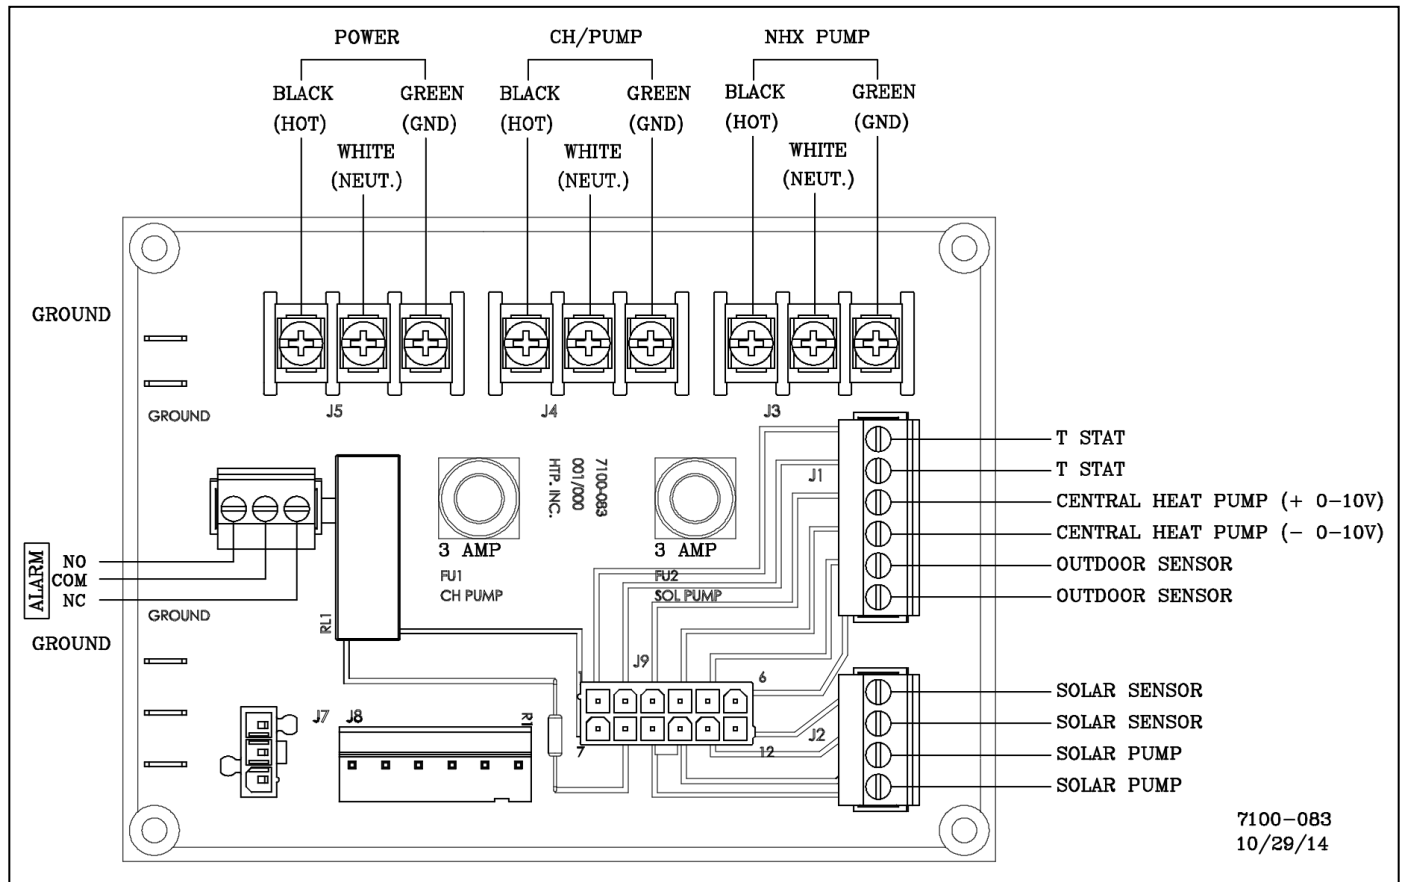

Figure 22 - Customer Connection Board
1. Connect the normal **incoming power** to the terminals marked as shown in Figure 22. A line voltage fused disconnect switch may be required to be externally mounted and connected according to local codes and standards.
2. Connect the **central heating pump** as shown in the terminals marked CH/DHW PUMP (see Figure 22). The connections shown are suitable for a maximum continuous pump draw of 3 amps at 120 volts. If the pump requires more current or voltage than the 120 volts supplied, an external motor starter will be required.
3. Connect the **NHX pump (if applicable)** as shown in the terminals marked NHX PUMP (see Figure 22). The connections shown are suitable for a maximum continuous pump draw of 3 amps at 120 volts. If the pump requires more current or voltage than the 120 volts supplied, an external motor starter will be required.
1. Make all low voltage connections to the terminal strip located on the field connection board (shown in Figure 22) as outlined below.
2. The **room thermostat** should be connected to the terminals marked T STAT (shown in Figure 22). Alternately, any dry contact closure across these terminals will cause the unit to operate the hydronic heating module. **NOTE:** Caution must be used to ensure neither of the terminals becomes connected to ground. Mount the thermostat on an inside wall as central as possible to the area being heated, away from drafts or heat producing devices such as a television, which could influence the ability of the thermostat to measure room temperature accurately. **NOTE:** If the thermostat is equipped with a directly connected anticipator, the anticipator should be set at .1 amps. If the thermostat is connected to other devices, the anticipator should be set to match the power requirements of those connected devices. Refer to the instruction manuals of the connected devices for further information.
on the exterior surface of the building. It is preferable to mount the sensor on the north side in an area that will not be affected by direct sunlight but will be exposed to varying weather conditions. Connect the outdoor sensor to terminals marked "Outdoor" in Figure 22.
1. Connect a building management system or other auxiliary control signal to the terminals marked 0-10 VOLT + and 0-10 VOLT – in the electronics assembly (shown in Figure 22). Caution should be used to ensure that the 0-10 VOLT + connection does not become connected to ground.